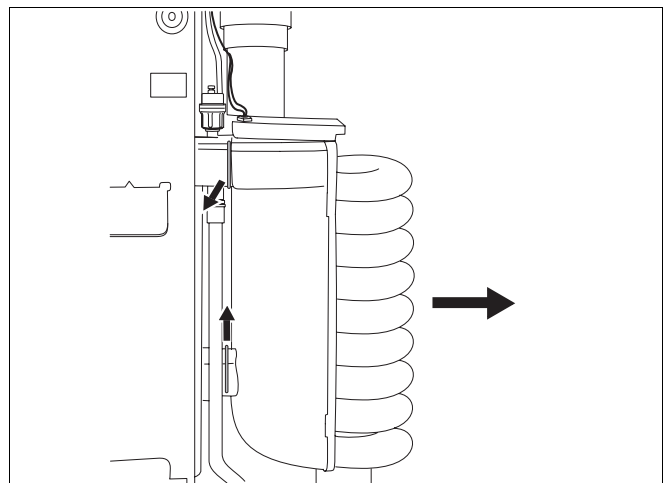

Fig. 44 Securing pin on spiral heat exchanger
- Remove securing pin on flow and return connection conduit (fig. 44) of heat exchanger.
- Remove spiral heat exchanger by pulling towards front (fig. 44). Drain any water remaining in the heat exchanger into the condensate trap.